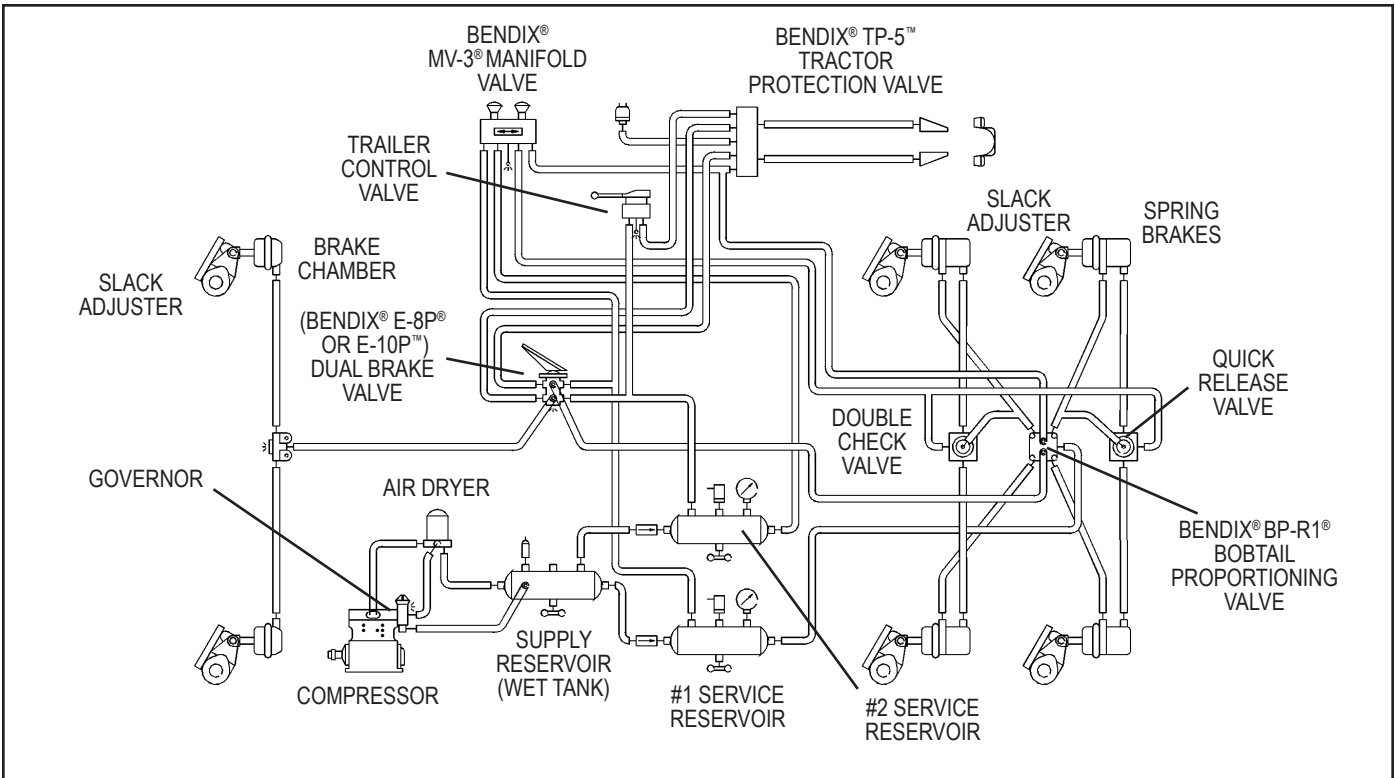

FIGURE 3 - TYPICAL PIPING SCHEMATIC
OPERATION - Refer to Figure 3
2. Remove the screw (9) securing the exhaust diaphragm (10) and washer (11) to the exhaust cover (12).
3. Remove the four screws that secure the exhaust cover (12) to the lower body.
4. Remove the secondary inlet and exhaust valve assembly (13) from the lower body.
6. Remove the rubber seal ring (14) from the lower body.
7. **For Bendix® E-8P® valve only:** While applying thumb pressure to the primary piston (22), lift out and up on the three lock tabs of the primary piston retainer (15).
8. **For Bendix® E-10P™ valve only:** While depressing spring seat (7), remove the retaining ring (8). Remove the spring seat (7) and coil spring (5).
Caution: Before proceeding with the disassembly, refer to Figures 3 and 4 and note that the lock nut (16) and stem (17) are used to contain the primary piston return spring (**for E-8P valve:** 23, **for E-10P valve:** 6), stem spring (19), and the relay piston spring (21). The combined force of these springs is approximately 50 pounds and care must be taken when removing the lock nut as the spring forces will be released. It is recommended that the primary piston and relay piston be manually or mechanically contained while the nut and stem are being removed.
9. Using a 3/8" wrench, hold the lock nut (16) on the threaded end of the stem (17). Insert a screwdriver to restrain the stem, remove the lock nut (16), spring seat, (18) and stem spring (19).
10. **For E-10P valve only:** Remove the adapter (1) and o-ring (4). Remove the primary piston (2) from the adapter (1) and o-ring (34) from the primary piston (2).
11. Remove the relay piston (20), relay piston spring (21), primary piston (**Bendix® E-8P® valve:** 22, **Bendix® E-10P™ valve:** 2) and primary piston return spring (**E-8P valve:** 23, **E-10P valve:** 6) from the upper body. Use care so as not to nick seats.